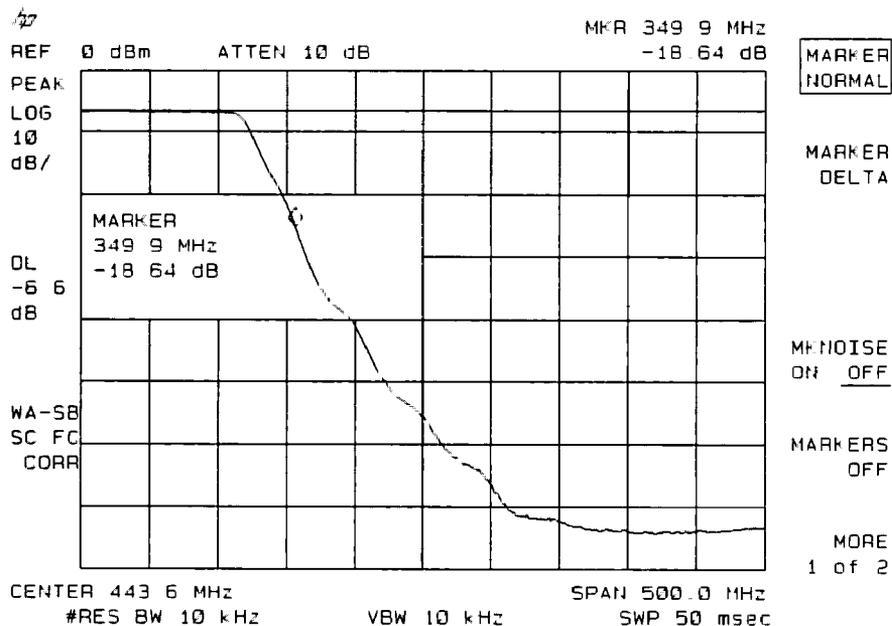

Figure 6-41. Measure the Rejection Range with Delta Markers
- To measure the rejection of the filter at a given frequency, press **MKR**, and enter the frequency. For example, enter 350 MHz. The marker readout displays the rejection of the filter at 350 MHz (see Figure 6-41).